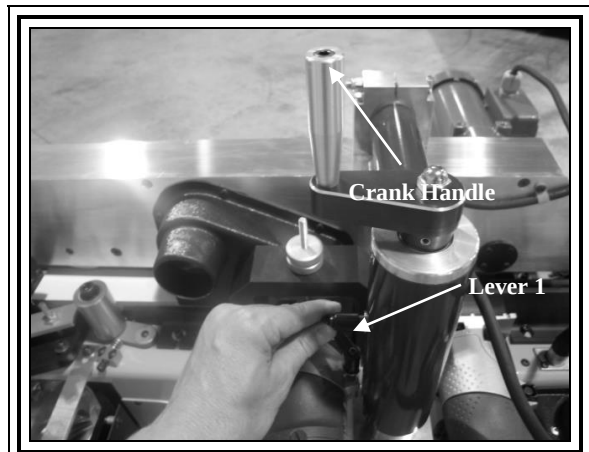

FIGURE 8
8. Install crank handle (In Box) with 3/16" allen bolt provided (**FIGURE 8**).